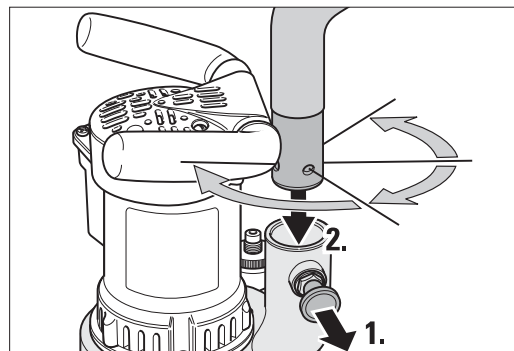

Fig. 2 Withdraw the stop bolt and feed the tube into the connector socket.
- 2 Pull out the stop bolt on the suction socket of the fan housing and at the same time insert the fan tube in the suction socket (Fig. 2).